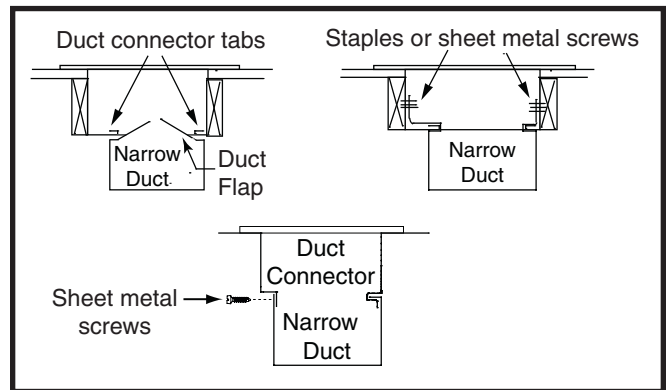

Figure 12. Narrow Ducts
- Bend the tabs on the bottom of the duct connector upwards and as tight as possible against the supply air duct. See Figure 12 \(page 8\).